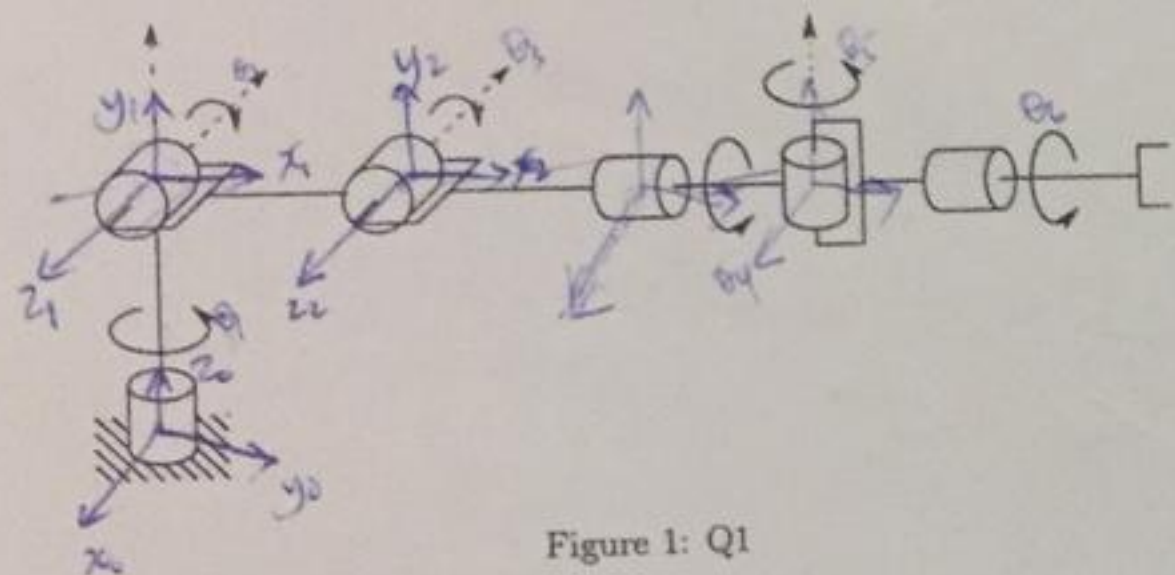

Figure 1: Q1
- (d) It is desired to place the origin of the hand frame of a cylindrical robot shown in Fig. 1 at $[6 \ 4 \ 10]^T$. Calculate the joint variables of the robot.
1. Figure 1 shows a cylindrical robot with spherical wrist. For this configuration